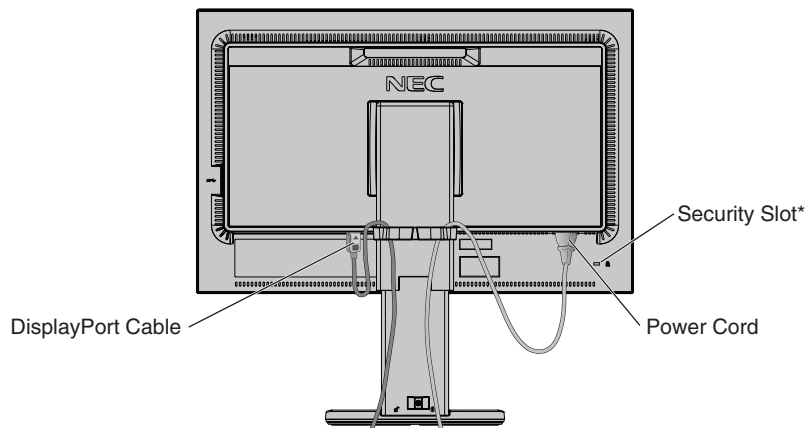
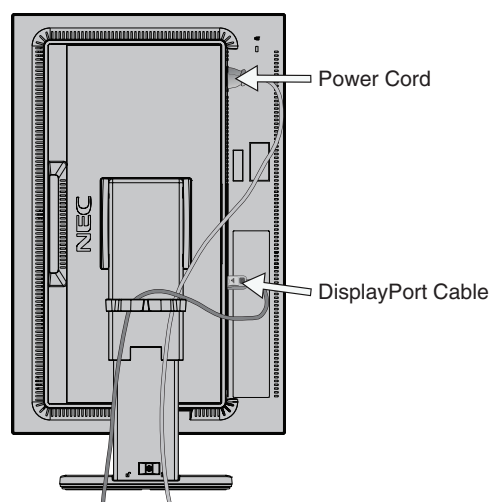

Figure C.2
Figure C.3
5. To keep the cables neatly and evenly organized, place them into the cable holder which is installed onto the stand (Figure C.2 and Figure C.3).